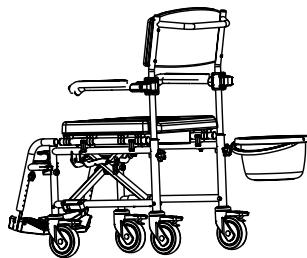

Fig.18
- Insert the bucket from the rear side of the shower chair by sliding it into the slots (Fig.18).